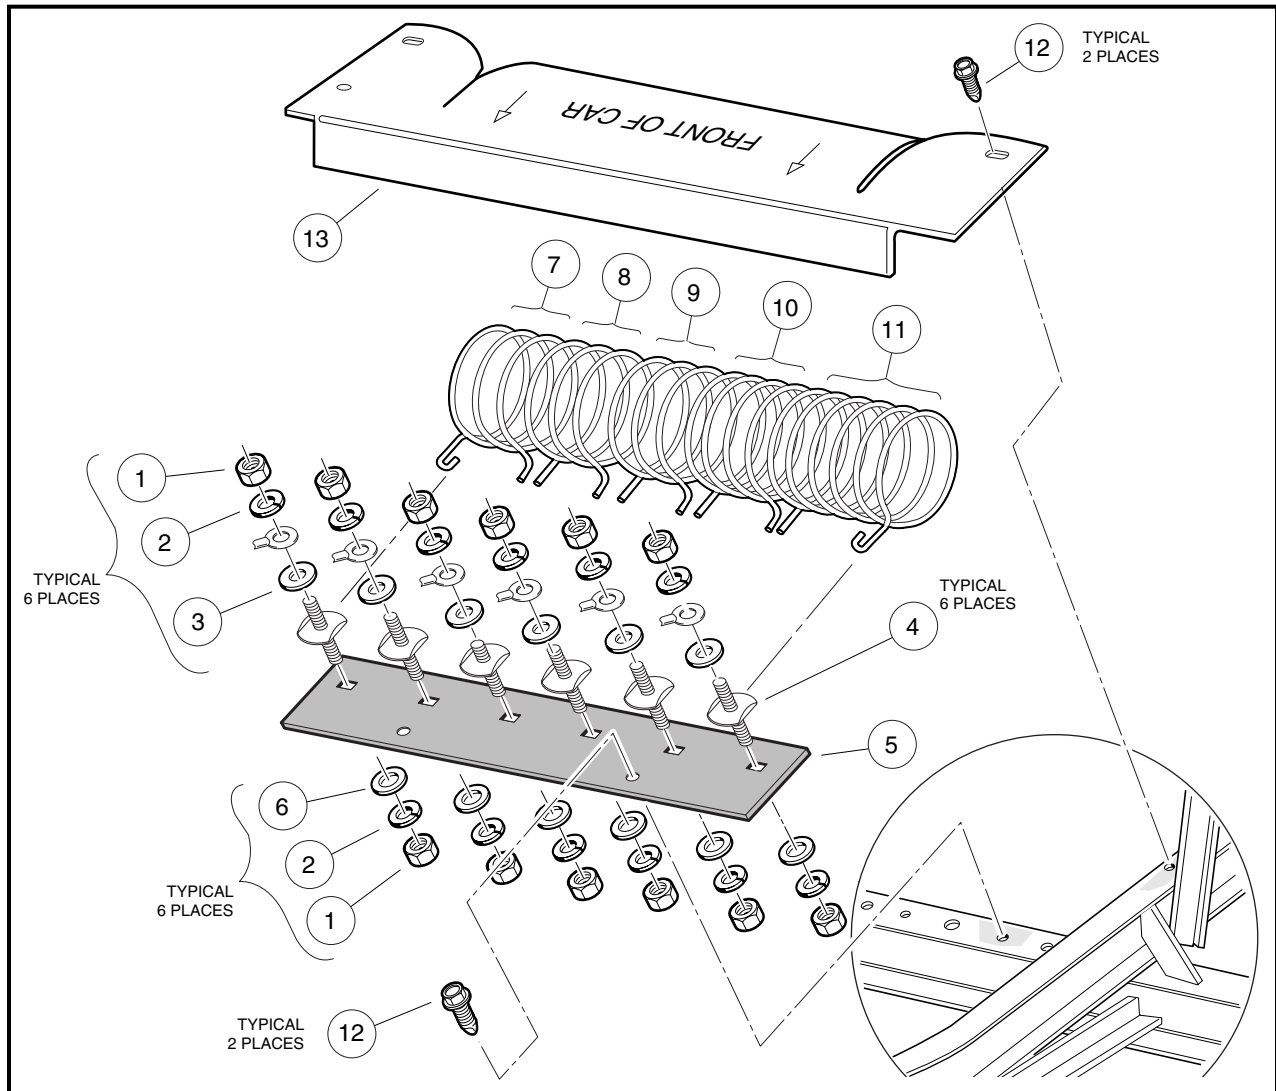

Figure 12-6 Mounting Board and Resistors
2. Loosen, but do not remove, the nuts (1) that secure the resistors (R1 through R5) to the mounting board and then slide the resistors out from under the washers (3) (**Figure 12-6, Page 12-7**).
1. Position resistor ends under washers (3) and tighten nuts to 95 in-lb (11 N·m) (**Figure 12-6, Page 12-7**).
Make sure the resistor coils are installed in the proper order (**Figure 12-6, Page 12-7**). Resistor 1 has the smallest diameter wire and the greatest number of coils. Resistor 5 has the largest diameter wire and the smallest number of coils.